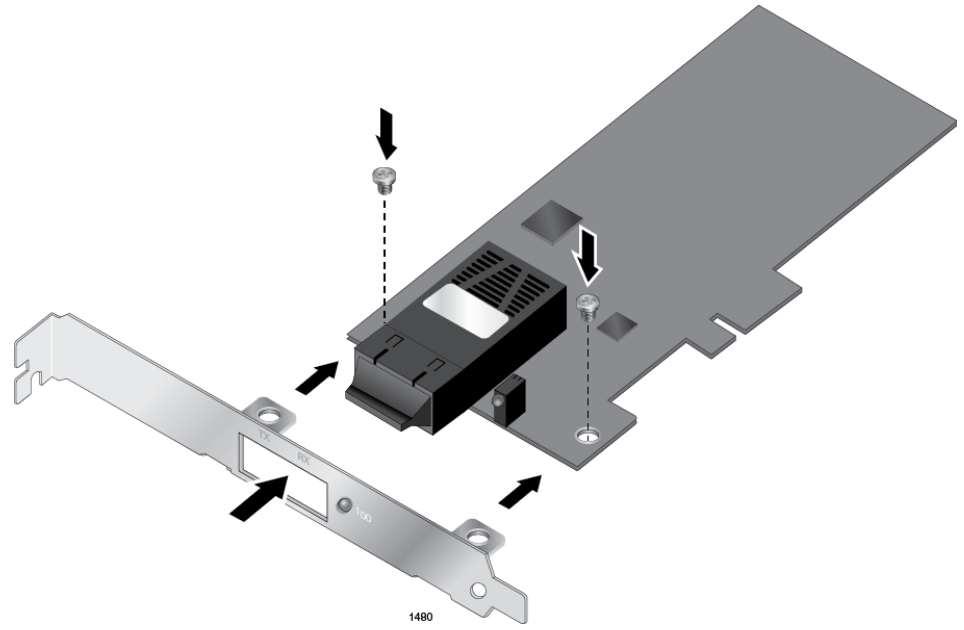

Figure 7. Fastening Screws onto Standard Bracket
2. Align the tabs of the standard bracket with the holes on the adapter card and fasten the screws onto the adapter card. See Figure 7 on page 27.